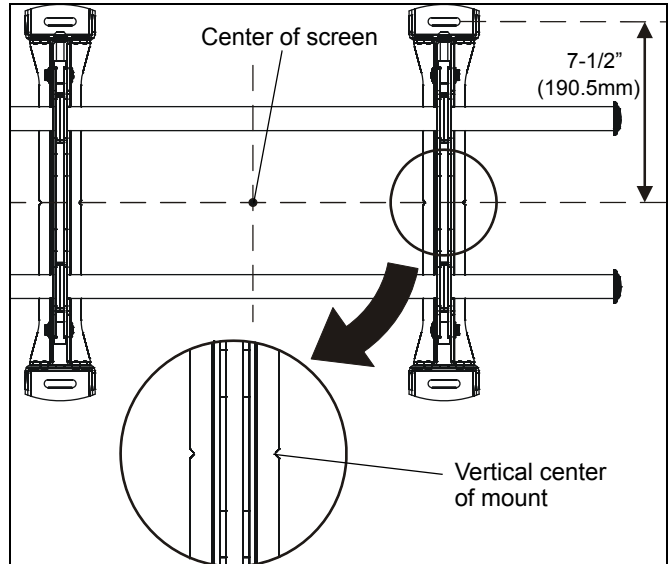

Figure 2
3. Line up the notches on mount (R) with center of screen marking to determine vertical center. (See Figure 2)
4. Measure up 7-1/2" (190.5mm) from the center point to mark location of the upper mounting slots. (See Figure 2)